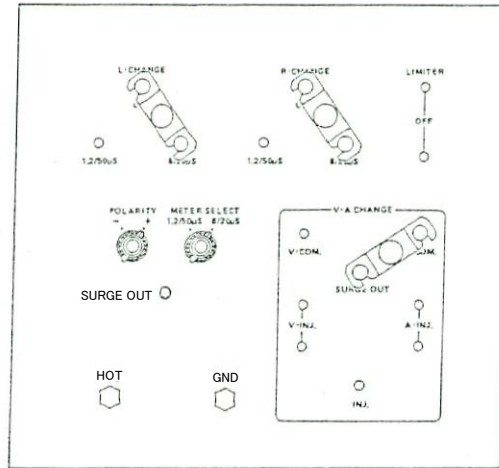

Fig. 11
2. Make connections on the Output waveform selector ⑭ as shown in Fig. 11. Do not connect anything on Surge injection phase selector ⑯.
2. Connect the supplied check connector plug to the Current check connector (A-CHECK) ⑩ and connect the 10:1 probe to it.
3. Make connections on the Output waveform selector ⑭ as shown in Fig. 11. Set the METER selector ⑬ to the 8/20 μ s position and select the desired surge polarity. Connect HOT terminal ⑪ to GND terminal ⑮ with a 5.5sq cable or an equivalent to make these terminals short-circuited and close the acrylic door.
2. Set the Output waveform selector ⑭ as shown in Fig. 11. Connect the HOT terminal ⑪ to the GND terminal ⑮ by a 5.5sq cable or an equivalent.